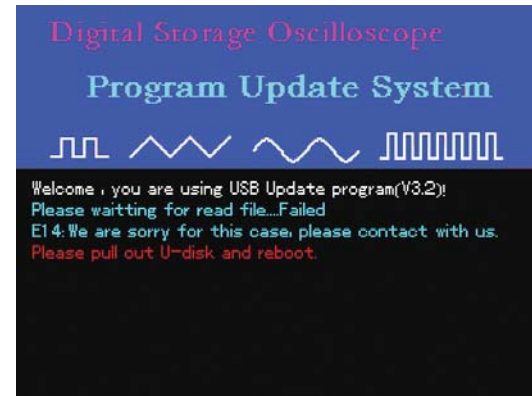

Figure 5-9
4. During upgrade, if the document in the USB root directory has been damaged and cannot be read, you will see the prompt shown in Figure 5-9 : “E14: We are sorry for this case, please contact with us. Please pull out U-disk and reboot.”